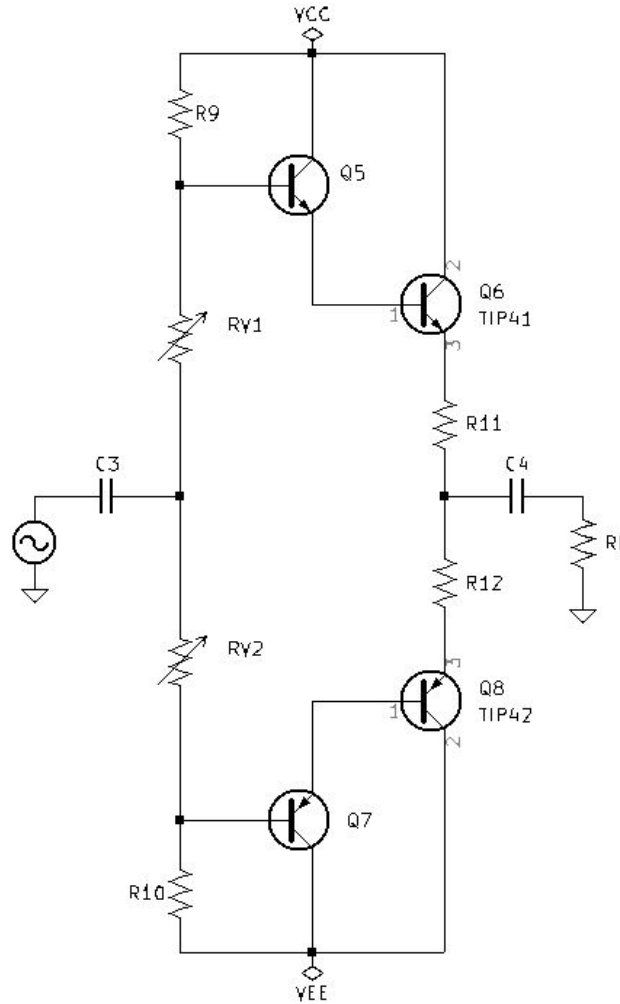

Figure 5.3: Push Pull Amplifier Calibration Circuit.
5. See Figure 5.3 *Push Pull Amplifier Calibration Circuit* on page 50.